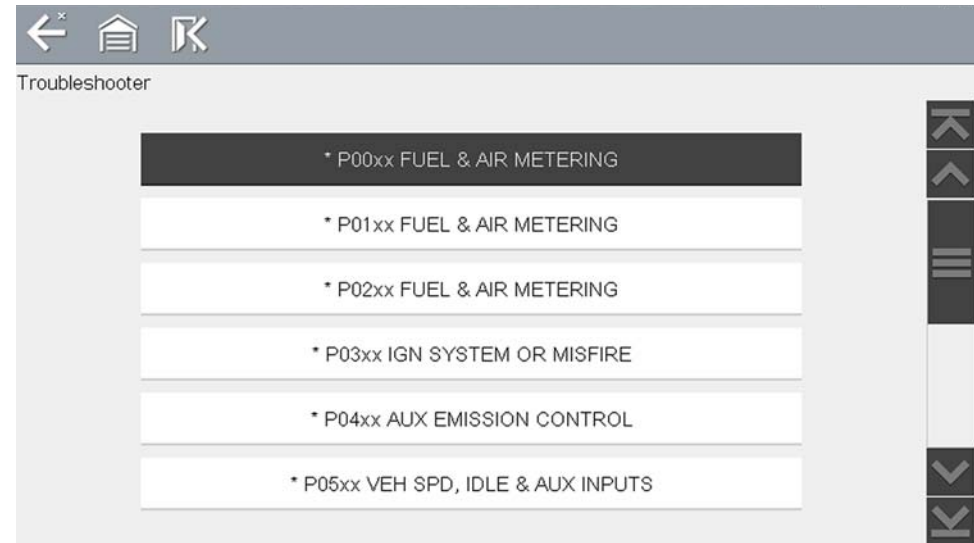
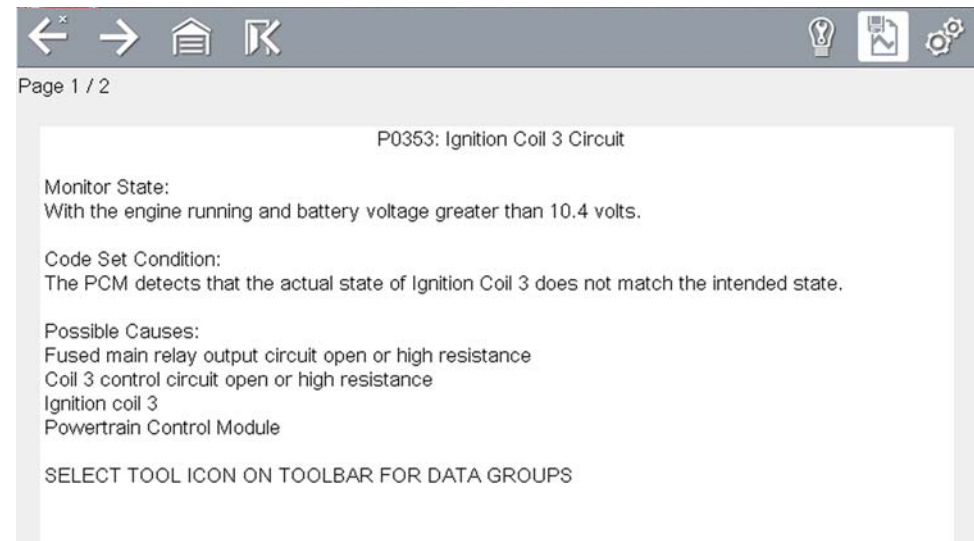

Figure 5-48 Troubleshooter code tip menu
Figure 5-49 Troubleshooter tip (Example: P0353)
- **Code Tips**—provides detailed information on setting conditions, testing, and interpreting test results for specific codes (Figure 5-48 and Figure 5-49).